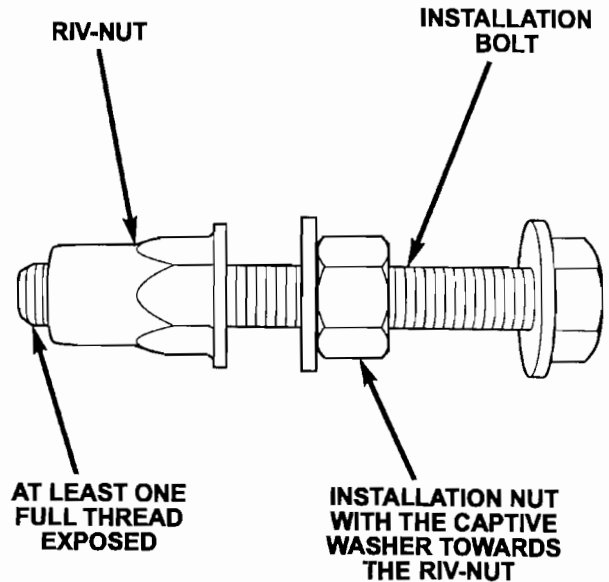

Figure 4
- n. Pre-assemble the new riv-nut by installing the M6 nut and the riv-nut onto the M6 bolt as shown in Figure 4.